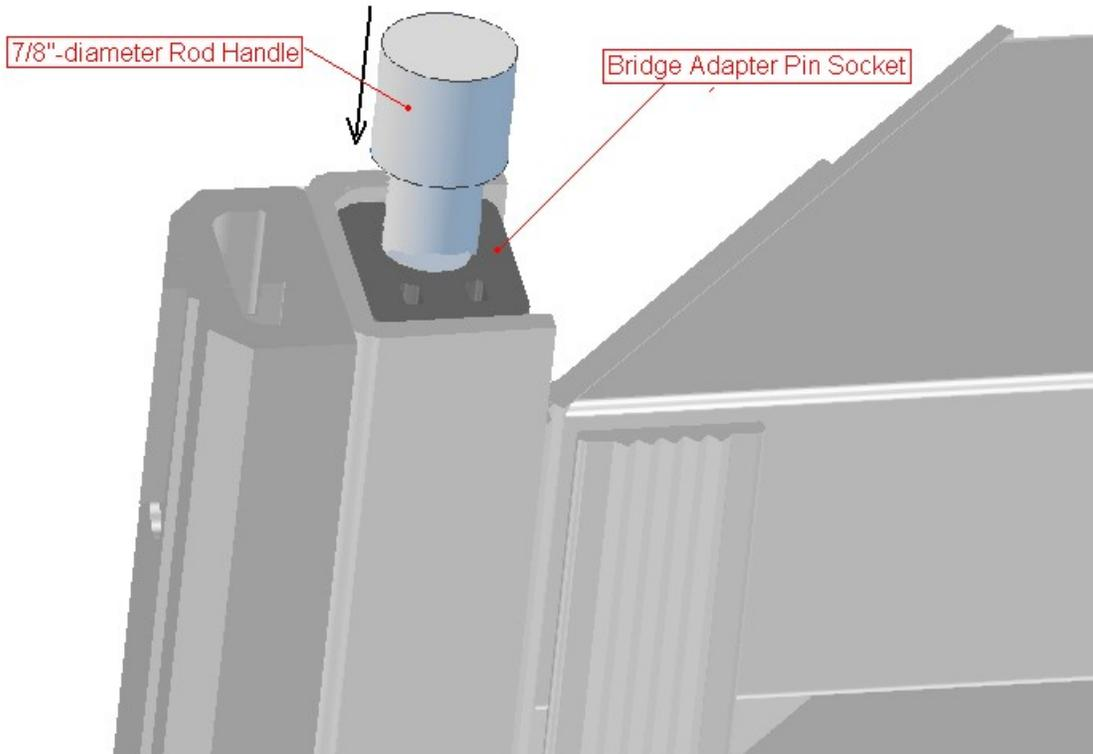

Figure 3 – Perspective Side View of Socket Rod Installed Through Pin Socket and Ramp Adapter
- 2) Take the 7/8"-diameter Socket Rod and slide down into and through the Pin Socket holes until the head rests on the Pin Socket surface, as illustrated in Fig. 3 below: